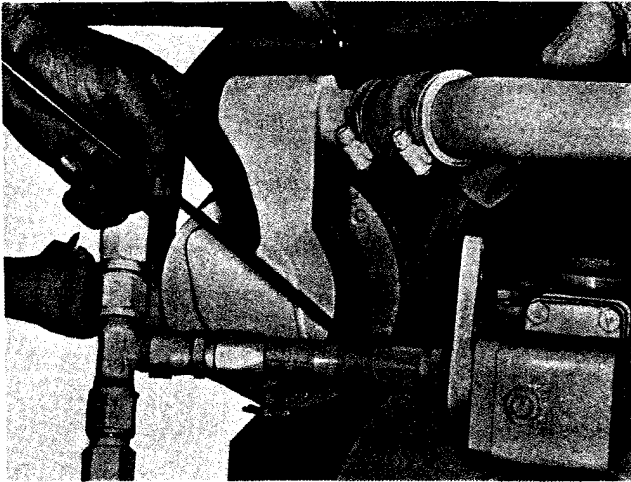

Fig. 2-10, (V21972). Checking Capitol marine gear oil level
2. Reinstall drain plug and fill gear to "H" oil level on dipstick, Fig. 2-10.